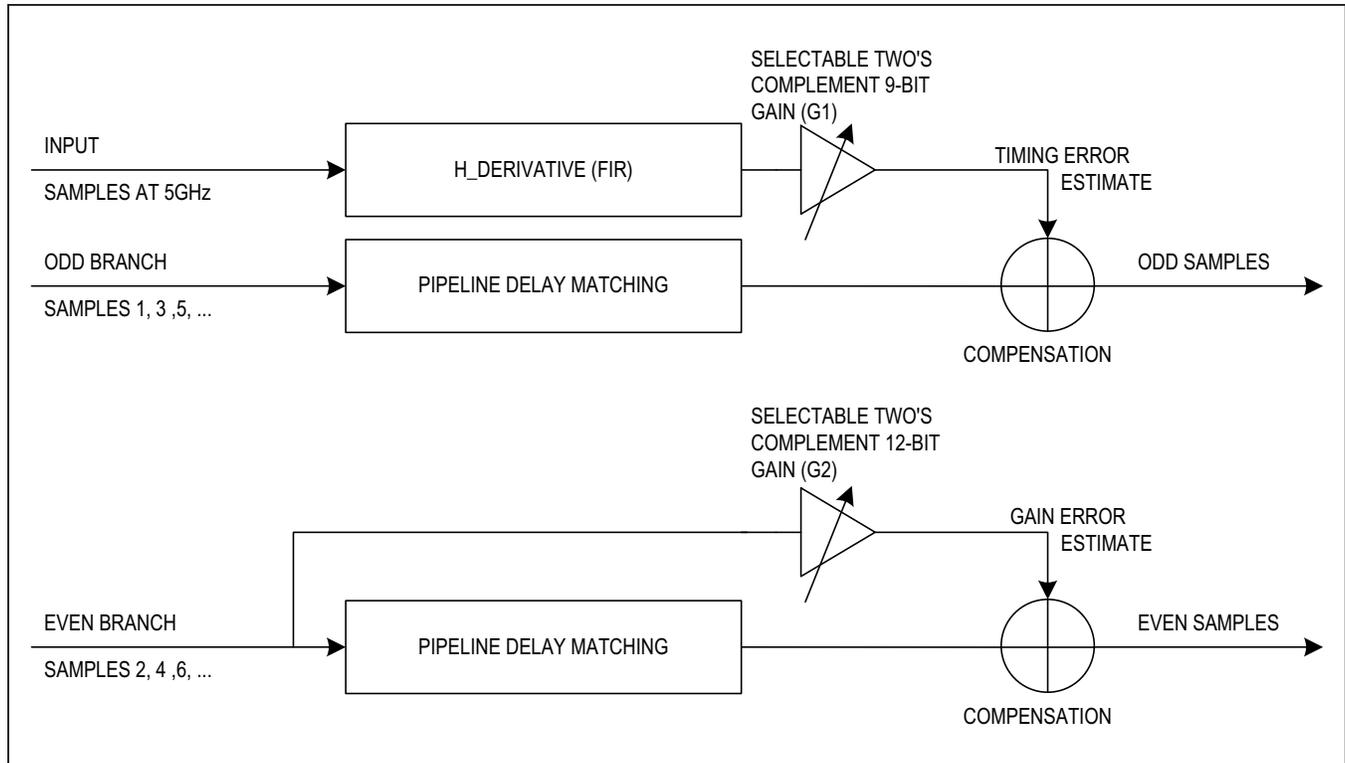

Figure 22.  $f_{DAC/2} - f_{OUT}$  Correction Block
- DAC Interleaving-Error Compensation: Since the DAC is updating on both clock edges, every other sample has an error resulting from the clock duty cycle being different by 50%. The DAC can also have a gain error in every other sample. The DAC interleaving compensation can correct for these two errors. By optimizing for these errors, the  $f_{DAC}/2 - f_{OUT}$  image is minimized. The block diagram of the DAC interleaving-error compensation block is shown in Figure 22.
programmable parameters, ranges, and resolution. Review the Register Descriptions section for programming information. The DAC interleaving compensation shown in Figure 22 contains two paths. Interleaving compensation adjusts for gain errors of every other sample, caused by either actual DC gain error or by clock duty-cycle error. The uppermost data path in this figure corrects for clock duty-cycle error. A duty-cycle error causes an error in the boundary between two samples that is proportional to the step size. In the uppermost data path, the step size is extracted and then every other step is extracted and scaled. The phase-correction filter aligns the phase of the correction signal with the transition between two adjacent samples. The lowermost data path extracts every other sample of the input signal and scales the input signal. When added into the signal path, a gain adjustment for every other sample results.